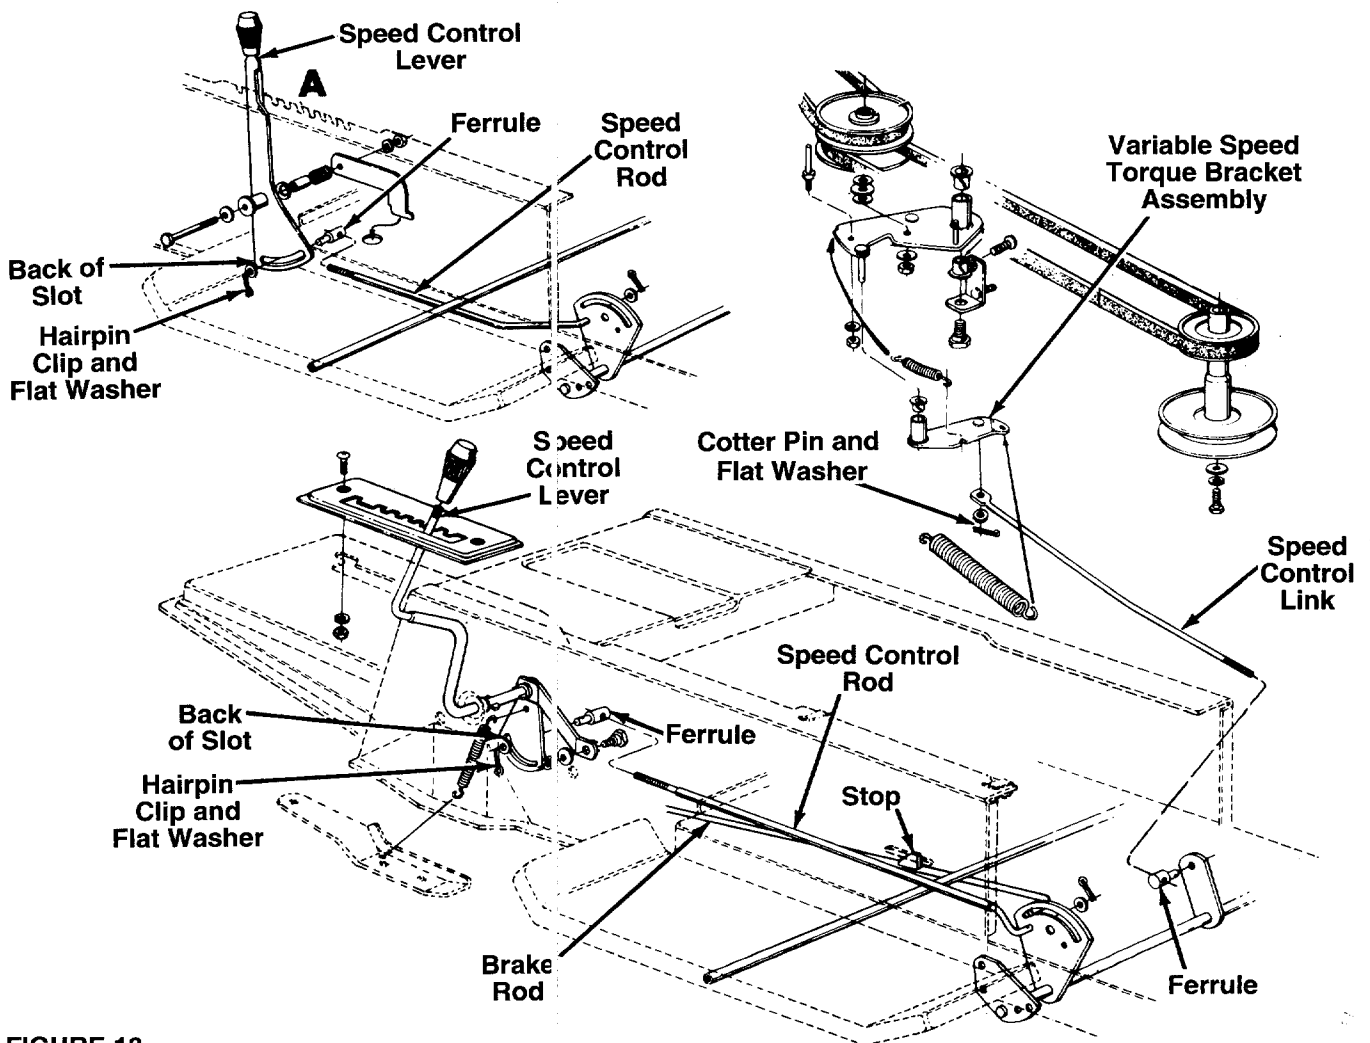

FIGURE 13.
## SPEED CONTROL ADJUSTMENT (See figure 13)
1. Adjust the speed control lever by pushing the clutch-brake pedal forward until the stop on the brake rod is against the frame. See figure 13. Have another person hold the pedal in this position as you make the following adjustment. Place the speed control lever in parking brake position. Remove the hairpin clip and flat washer, and adjust the ferrule on the rod so it is against the back end of the slot. See figure 13. Then lengthen rod one more turn. Reassemble and secure with the flat washer and hairpin clip.